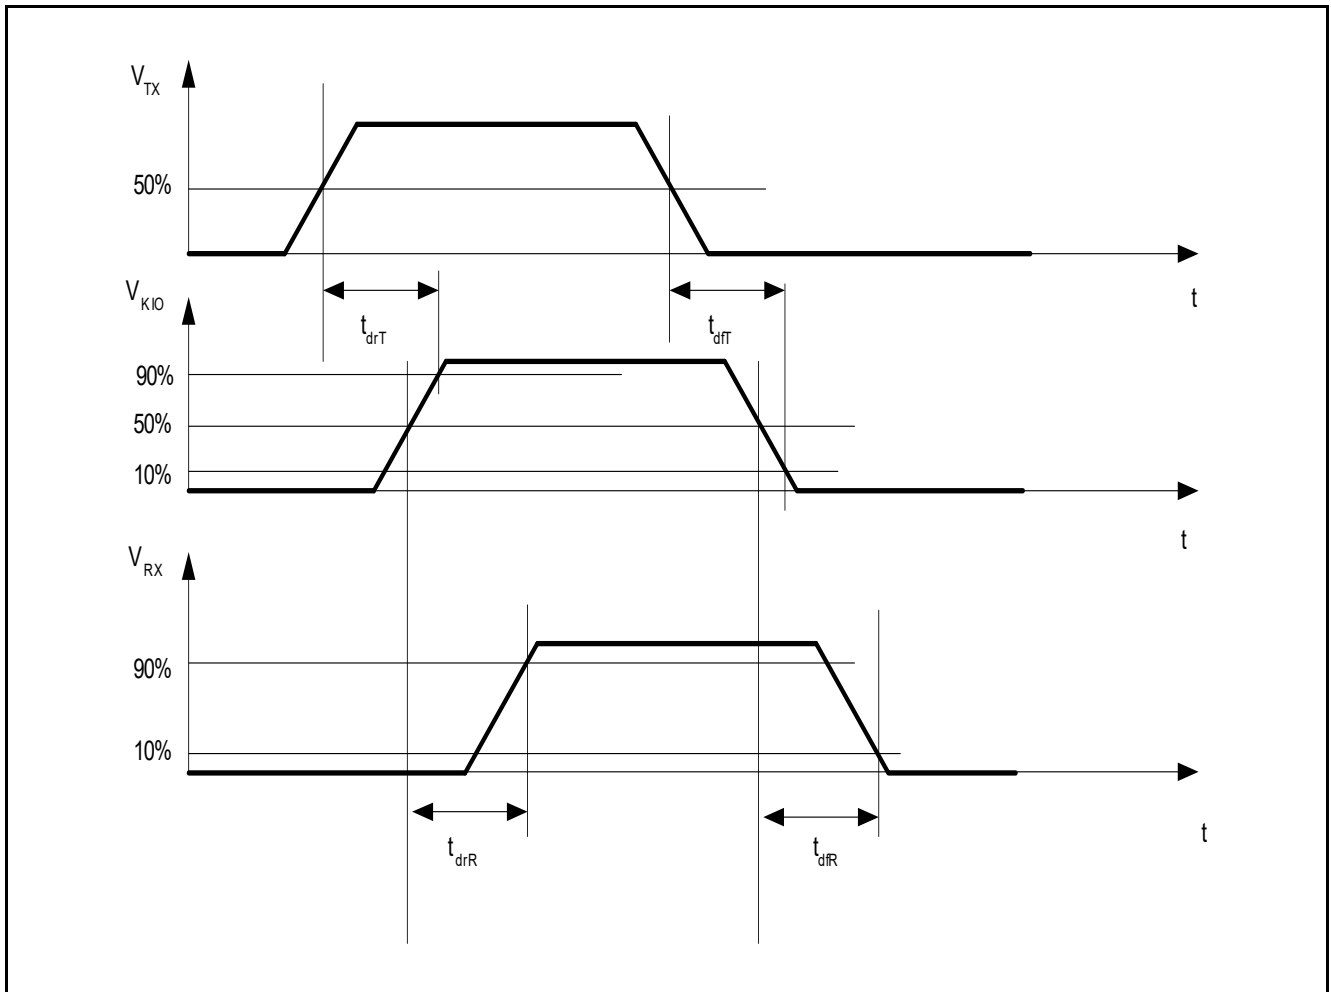

Figure 12 K-line transfer characteristics
2) For definition see Figure 12.